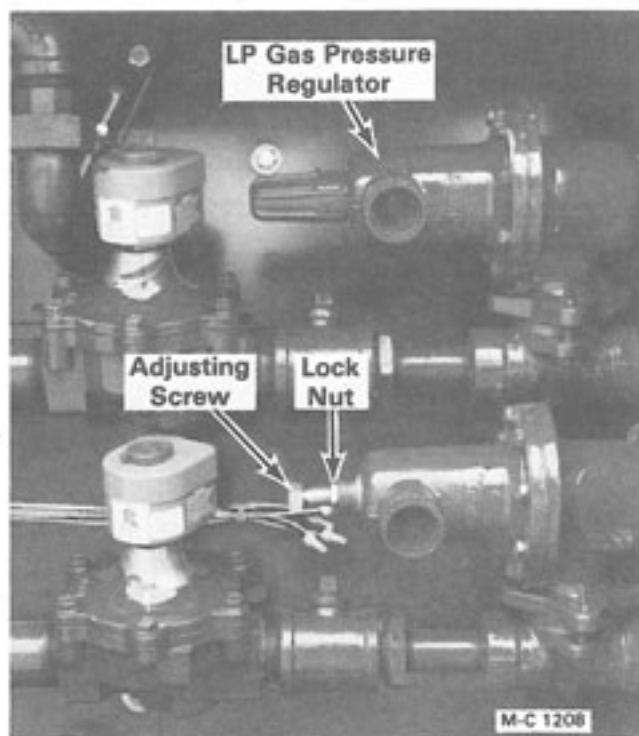

Figure 14 - LP Gas Two Burner Cabinet
12. **LP Gas Only** - With the burner operating, check the reading on the gas pressure gauge in the manifold see Figure 14. It should be approximately 8 to 10 pounds (less in mild weather). If not, loosen the locknut on the pressure regulator adjusting screw, see Figure 14. Turn the adjusting screw IN to increase and OUT to decrease pressure.